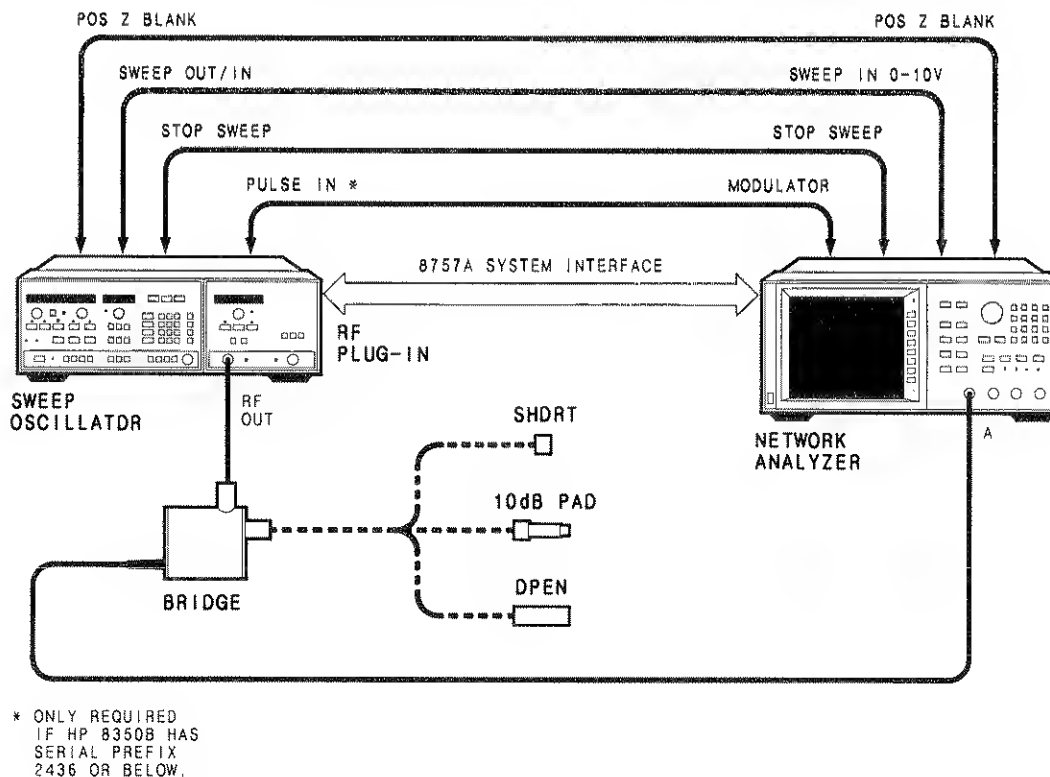

Figure 3-3. Typical Operator's Check using HP 8757A
Figure 3-3 illustrates the setup for the operator's check procedure. Follow this procedure to quickly check the entire measurement system. Incorrect results may be caused by any portion of the system, but if the HP 85027 is suspected use the performance tests in Section 4 to determine whether the bridge is operating correctly. If the bridge fails those tests, turn to Section 8 to isolate the problem.
1. Connect the equipment as shown in Figure 3-3 and turn it on.